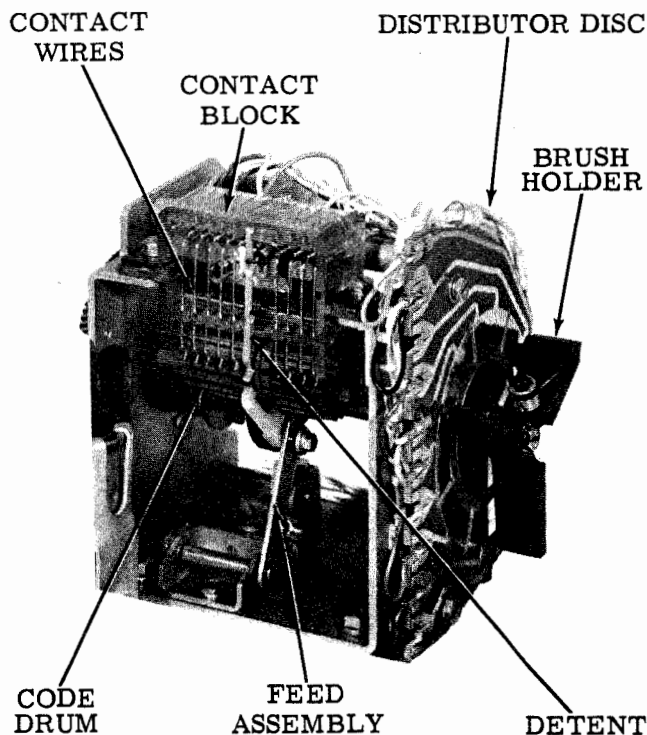

Figure 3 - Answer-Back Mechanism (Rear View)
cuits are required. In addition, the answer-back mechanism (Figures 3 and 4) may be mounted in a 35 Automatic Send-Receive (ASR), Keyboard Send-Receive (KSR), or Receive-Only (RO) Teletypewriter Set.
1.10 The answer-back mechanism may be mounted in the answer-back unit, or a 35 ASR, KSR, or RO Teletypewriter Set. The basic answer-back mechanism shown in Figures 3 and 4, consists of the following parts or subassemblies: trip magnet, code drum, main shaft, feed assembly, contact block, and distributor. The subassemblies are interconnected mechanically and/or electrically to perform all functions incidental to automatic message transmission. In addition, a double set of electrical contacts is provided for motor hold and relay pull-up operations. The motor hold contacts are required for applications where intermittent operation of the motor is both possible and desirable. The relay pull-up contacts apply to the application discussed in Paragraph 1.05.
2.14 The contact block contains nine contact wires with provisions for cable connections, a detent spring, and a common terminal. The code drum is inserted in the slots formed by the contact block extensions. See Figure 3. The common terminal for selected contact wires is located approximately midway between the top and bottom of the contact wires. The contact wires are aligned to follow their respective tines on the code drum.
2.16 The distributor consists of a distributor disc and distributor brush holder with brushes. Each effective contact wire on the contact block is connected to its respective segmented level on the distributor disc. The distributor is shown in Figure 3. Signal current is transferred from the inner solid ring to the outer segmented ring through the distributor brushes. The electrical transfer occurs through the torsion spring connecting the set of brushes. The spring serves a double purpose, ie, applies mechanical pressure and provides electrical continuity between the brushes.